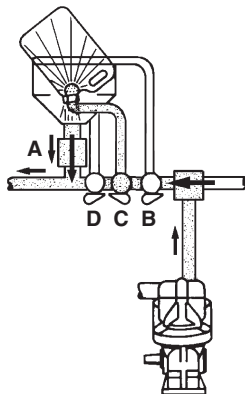

Fig 20
- 7 Open the bottom valve of the filler (A Fig 20 & A Fig 17) and the chemical is transferred to the main tank.
- 8 If the chemical container is empty it can be flushed with the container flushing device. Place the container over the multi-hole nozzle and press after opening the container flush valve (C Fig 20 & C Fig 17).